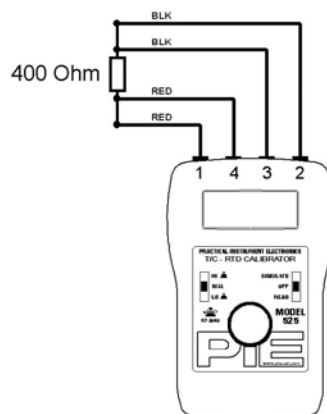

FIGURE 5 (Read OHM)
2. Connect a precision 400  $\Omega$  standard resistor to all 4 input terminals (See Figure 5).